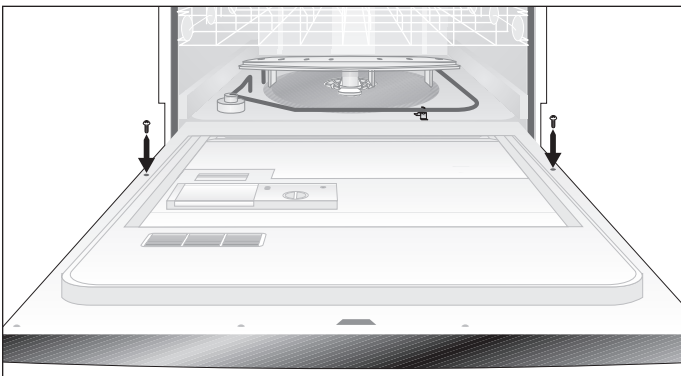

Figure 2-17.
1. Unlatch and open door. Using a Phillips head screw driver, remove two (2) screws from inner door. Save screws to reassemble. (See Figure 2-17).